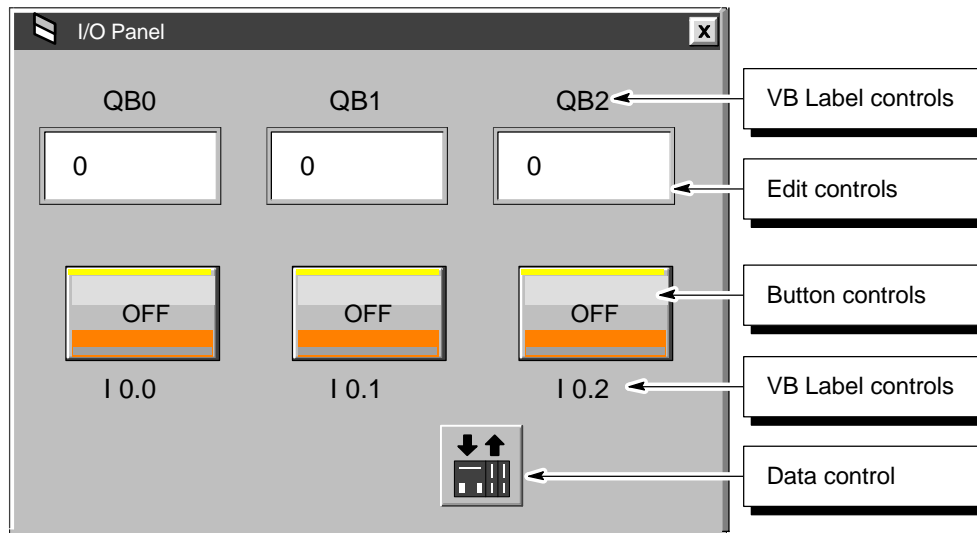

Figure 1-4 Sample I/O Panel Created in Visual Basic
1. Insert one Data control, three Edit controls and three Button controls onto the Visual Basic form. See Figure 1-4.
2. Create standard VB label controls to indicate the address that you have assigned for each of the controls. See Figure 1-4.